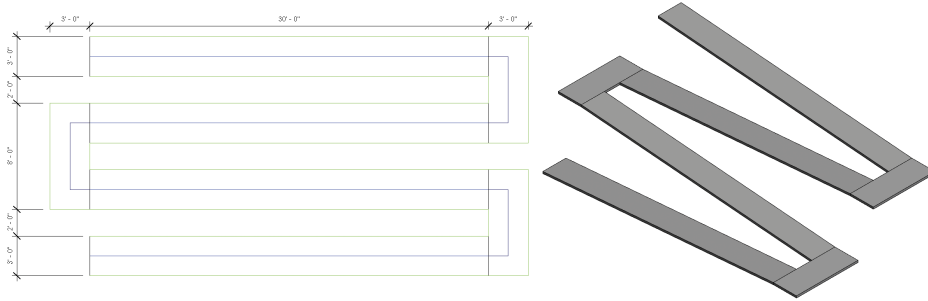

FIGURE 4.28 Straight runs of ramps
4. Using the Run Draw tool, add straight runs similar to Figure 4.28.
The ramp should look similar to the image in Figure 4.28.